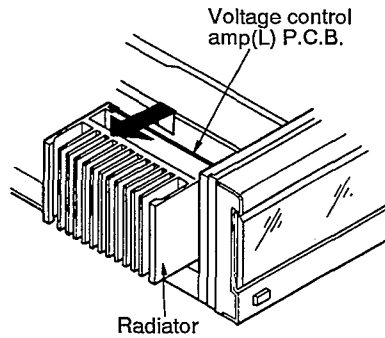

Fig. 2
- Connect the ground terminal of current drive amp(L) P.C.B. and chassis by lead wire.
- Figure 2 and figure 3 show the left (L ch) voltage control amp(L) P.C.B.
- Remove the right (R ch) voltage control amp(R) P.C.B. in the same way.
3. When checking the solder surface of voltage control amp(L) P.C.B. and replacing the parts, do as shown.